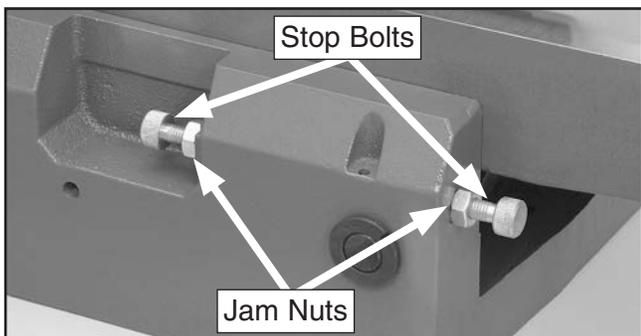

Figure 67. Outfeed table positive stop bolts.
3. Loosen outfeed table lock located at front of machine, and loosen jam nuts and positive stop bolts located at back of machine just behind outfeed table (see **Figure 67**).